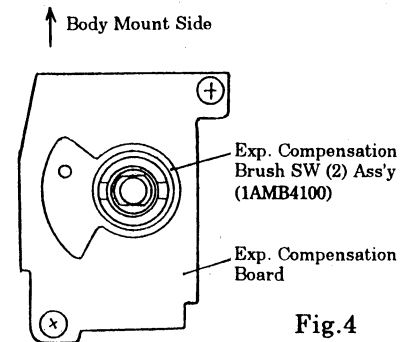

Fig. 4
- 1) Make certain that the Exp. Compensation Brush SW (2) Ass'y (1AMB4100) (Contact) is positioned as shown in Fig. 4.